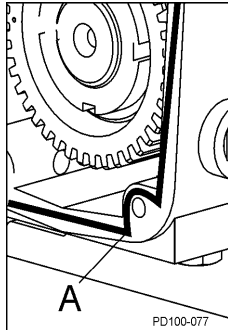

Figure 64 Sealant Placement
3. Apply silicone sealant to the back of the gear case. (Gore-Tex[®] sealing tape can be used on silicone-free models.) Place tape on the inside of the screw holes. (Figure 64, item A).